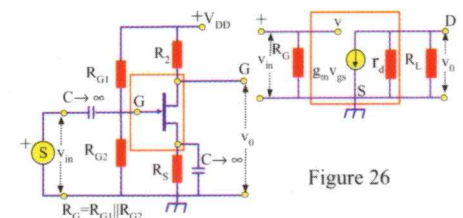

Figure 26
A common-source (CS) FET amplifier (with the dc biasing circuitry) and its small signal equivalent circuit are shown in Fig. 26.